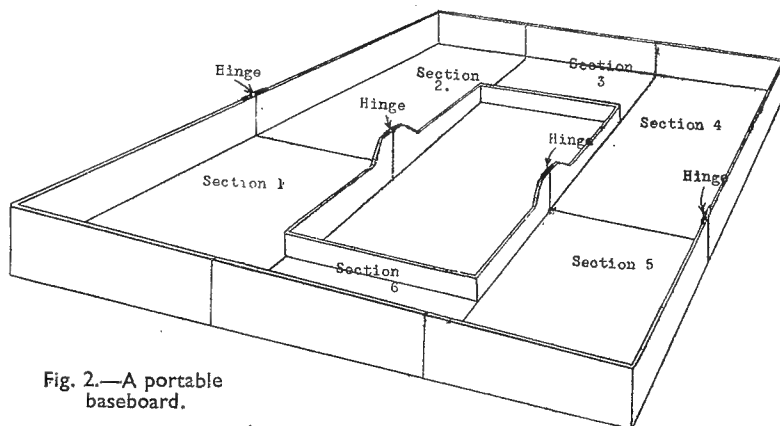

Fig. 2.—A portable baseboard.
*Portable layouts* can be admirably arranged in these standards. A friend of mine who is an Air-Vice-Marshal in the Royal Air Force has devised a most excellent portable scheme (Fig. 2) whereby a comparatively elaborate layout can be dismantled and packed for transit by two workers in an hour. On the other hand, a permanent structure can be so arranged as to be readily dismantled for transport in a day or two. Some enthusiasts greatly object to the idea of incorporating a